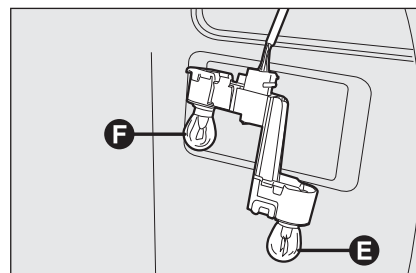

fig. 40
- remove and replace the burnt-out bulb by pressing it slightly and turning it counterclockwise **fig. 40**: